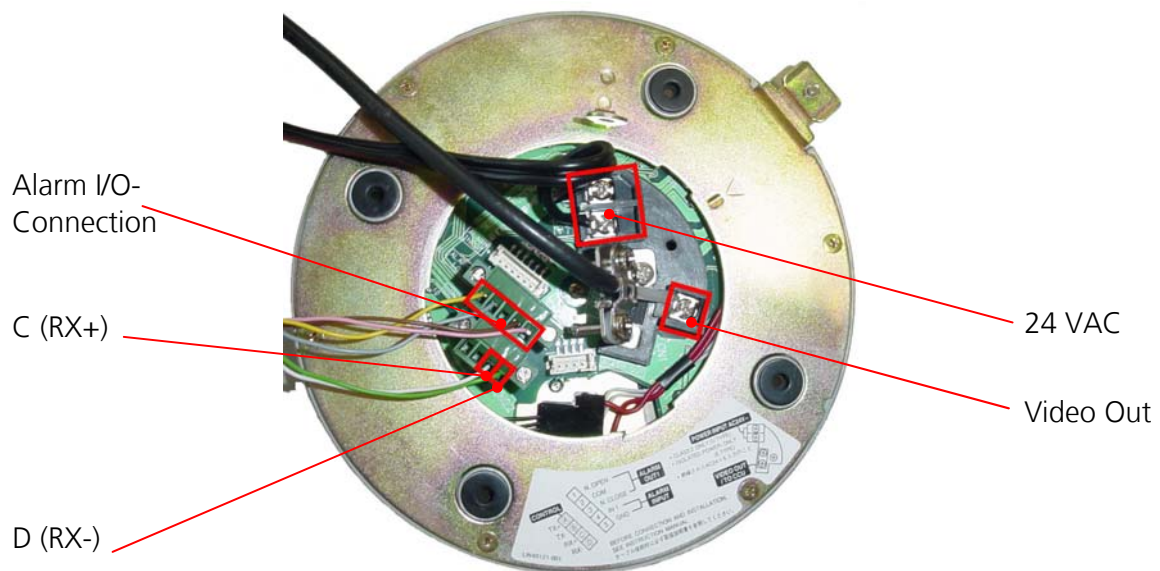

Fig. 1: JVC Dome – Ceiling-Mount with Connections
The connection (9600 baud) between the Remote Adapter (RA) and the JVC Dome must be established via the RS-485 interface. The control connection of the JVC Dome is located in the ceiling-mount (Fig. 1).